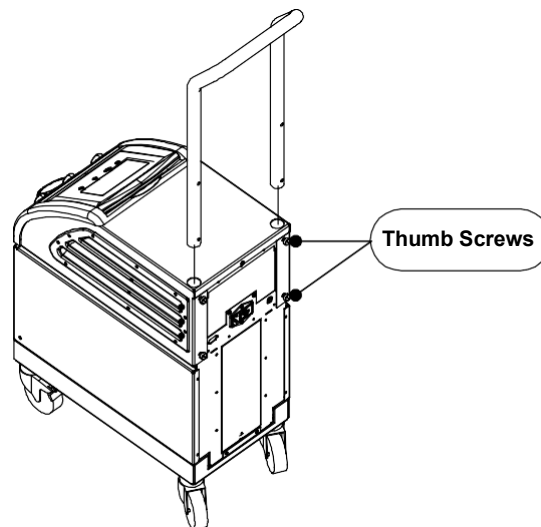

Figure 13: Handle Assembly
2. Slide the two ends of the handle into the holes in the top cover (pay attention to the direction of the curve in the handle) until the handle is inserted all the way in (see Figure 13).